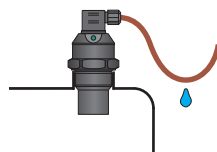

Fig. 9: Protection against penetration of moisture
- m) It is advisable to keep cable under the **cable gland** (sagging down) as shown in Fig. 9 to prevent penetration of moisture. Rain and condensing water can be therefore drained away freely.